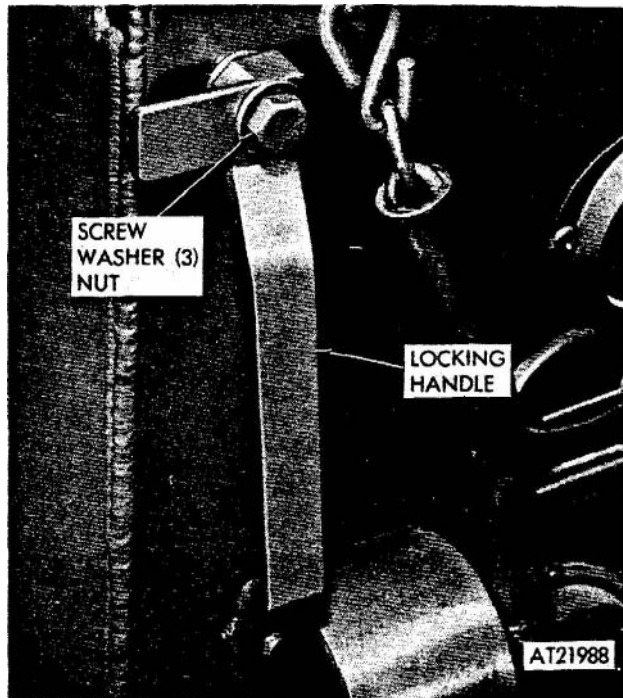

Figure 2-336. Tailgate locking handle, removal and installation.
(1) Open tailgate and secure with tailgate chain.
(2) Remove screw, three flat washers, lock washer, and nut securing locking handle to carrier. Remove handle (fig 2-336).
(1) Position locking handle to carrier and secure with screw, three flat washers, lock washer, and nut (fig 2-336).
(2) Lift tailgate slightly, release chains, close tailgate and lock. Stow chains. Visually check to ensure tailgate seals to carrier body.